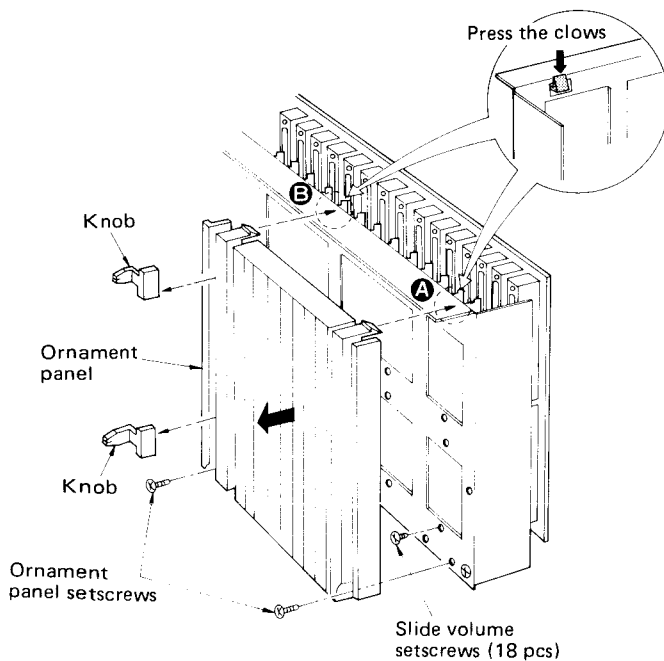

Fig. 3
3. Remove the 2 setscrews of the ornament panel as in Fig. 3.